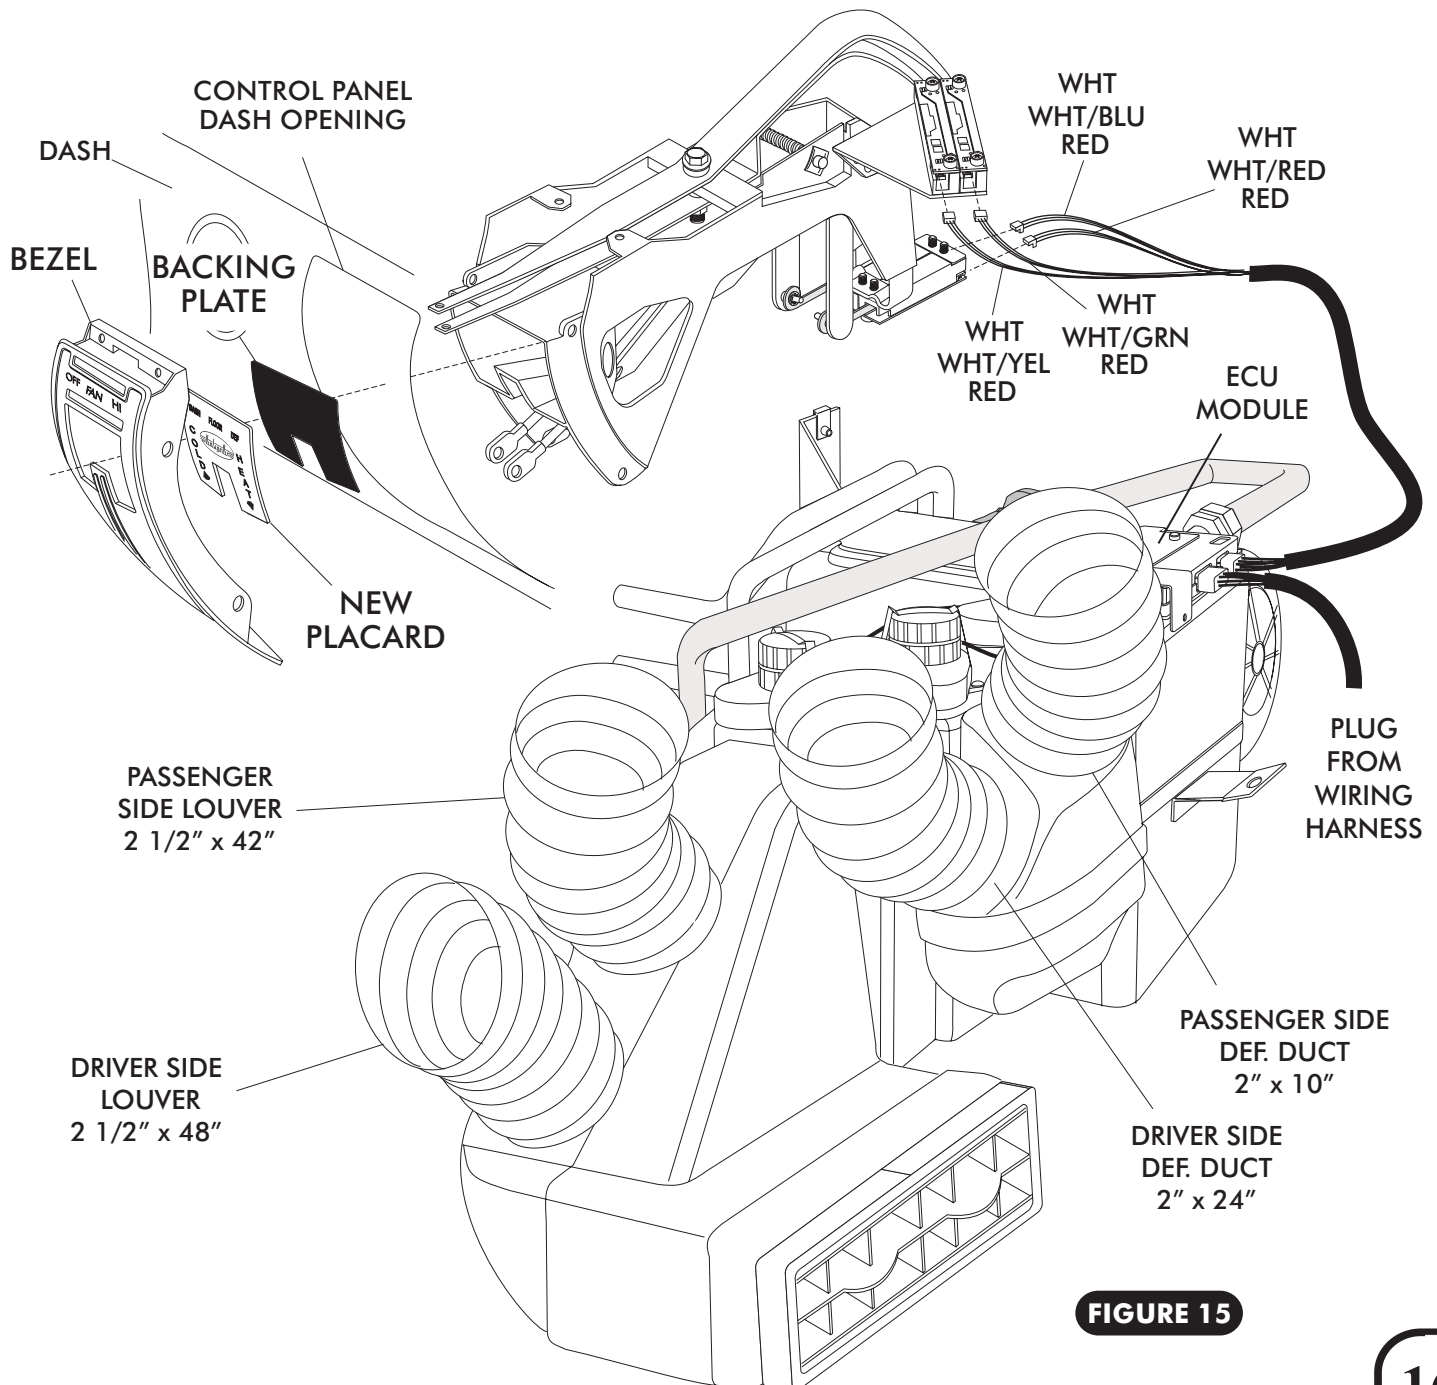

FIGURE 15
SEE FIGURE 5 BELOW & FIGURE 15, PAGE 16
- ☐ INSTALL DUCT HOSES AS SHOWN IN FIGURE 15 BELOW.
- ☐ FROM THE BACK SIDE OF THE DASH, INSTALL THE CONTROL PANEL ASSEMBLY THROUGH THE CONTROL PANEL OPENING IN DASH AS SHOWN IN FIGURE 15 BELOW.
- ☐ PLUG THE CONTROL PANEL HARNESS INTO THE ECU MODULE ON SUB CASE AS SHOWN. SEE FIGURE 15 BELOW.